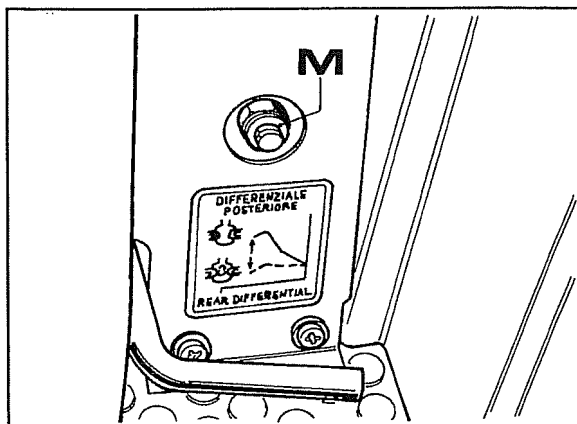

Fig. 1
- 1 Jack up the rear wheels and screw in the brake adjusting nut **M** Fig.1 until the corresponding wheel locks. Then slacken off the nut a half turn and check if the wheel turns freely. Repeat this procedure on the other wheel.